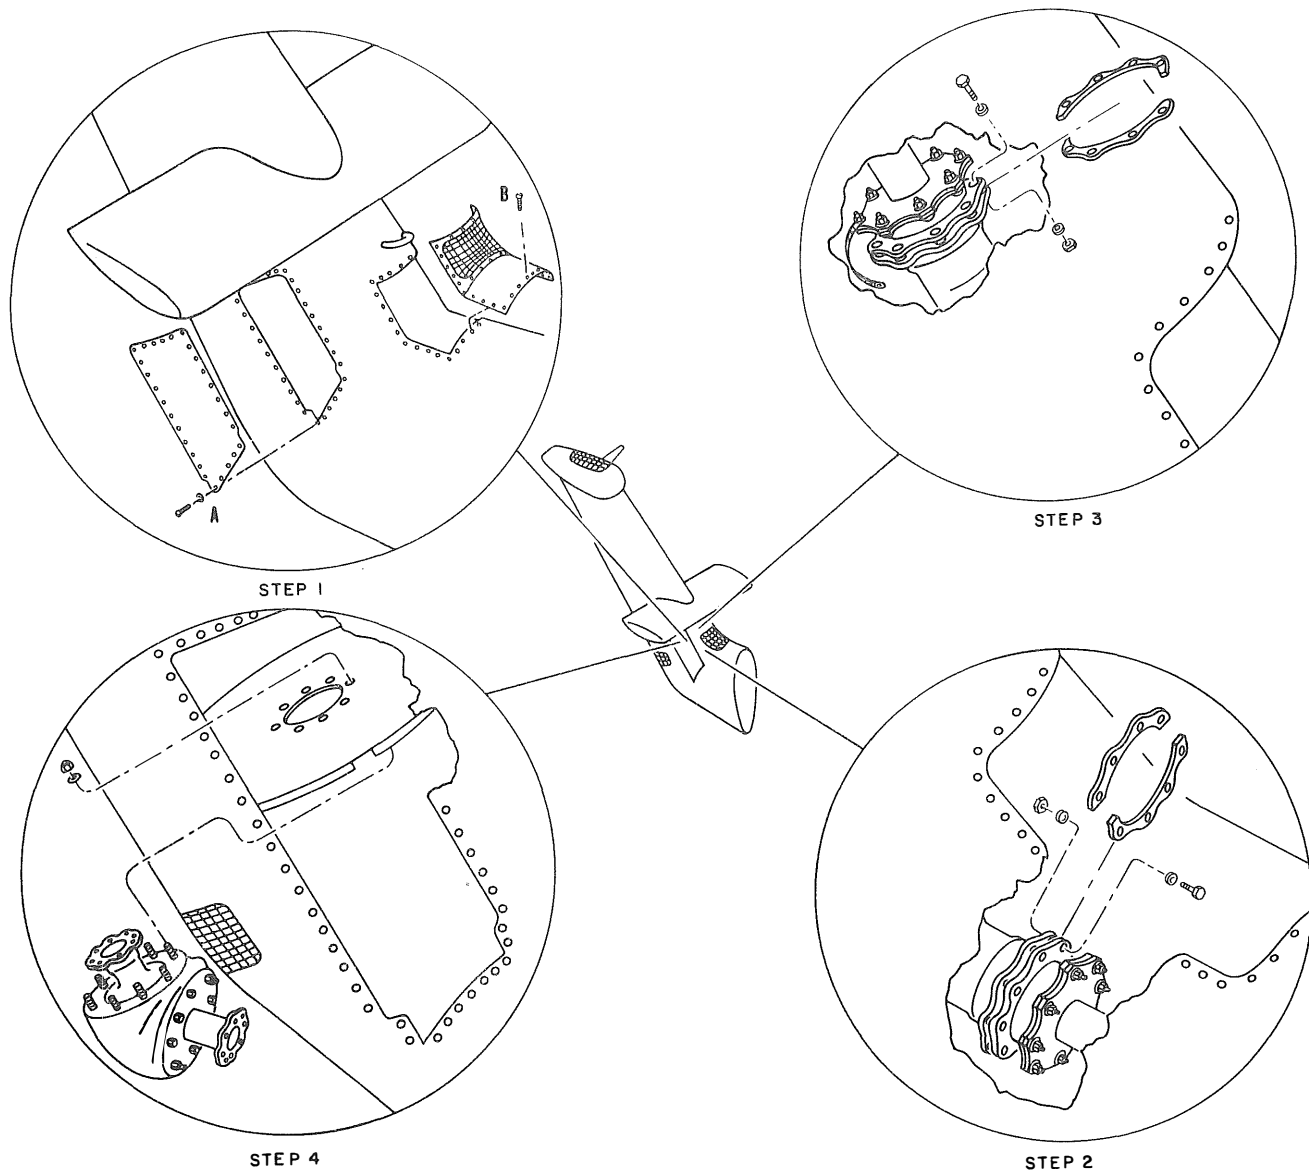

Figure 5-58. Intermediate Gear Box Removal
a. Remove the intermediate gear box access panel from the right side of the pylon at "A" (step 1, figure 5-58). Remove the disconnect shaft and air intake screened fairing at "B" (step 1).
c. Remove the bolts, washers, nuts and shims that secure the rubber coupling to the input housing flange. (See step 2, figure 5-58.)
- a. Position the intermediate gear box in the pylon and secure the gear box in place on the frame with the washers and nuts. (See step 4, figure 5-58.)
- a. Remove the intermediate gear box access panel (step 1, figure 5-58), the support bearing access panel (step 4, figure 5-55) and the upper rubber coupling access panel from the left side of the pylon.
- b. Remove the bolts, washers, nuts and shims that secure the lower rubber coupling to the output flange of the intermediate gear box. (See step 3, figure 5-58.) Release the bonding jumper.
h. Insert the required amount of shims for a line-to-line fit between the lower rubber coupling and the output housing flange of the intermediate gear box and install the bolts, washers and nuts. (See step 3, figure 5-58.) Tighten the nuts with 50 to 70 inch-pounds torque.
i. Replace the intermediate gear box access panel (step 1, figure 5-58), the support bearing access panel (step 4, figure 5-55), and the upper rubber coupling access panel on the pylon.